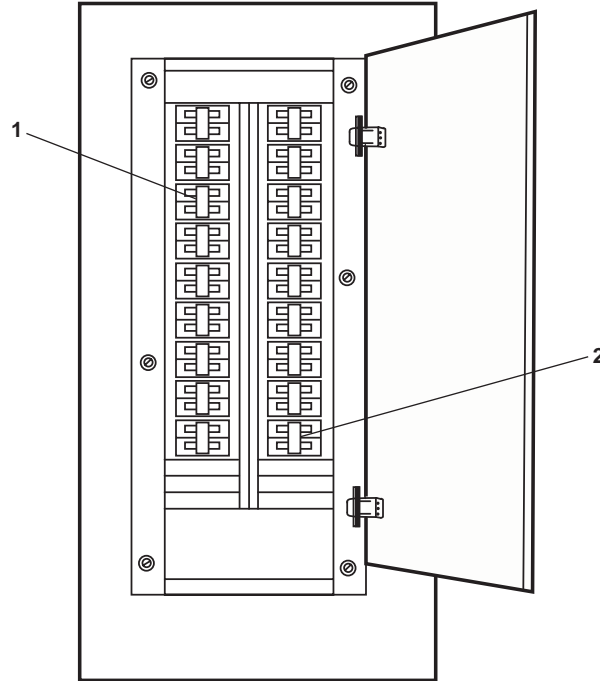

Figure 11. 120V Distribution Panel No. 4
- a. OILY WATER SEPARATOR (figure 11, item 1)
- b. OIL CONTENT MONITOR (figure 11, item 2)